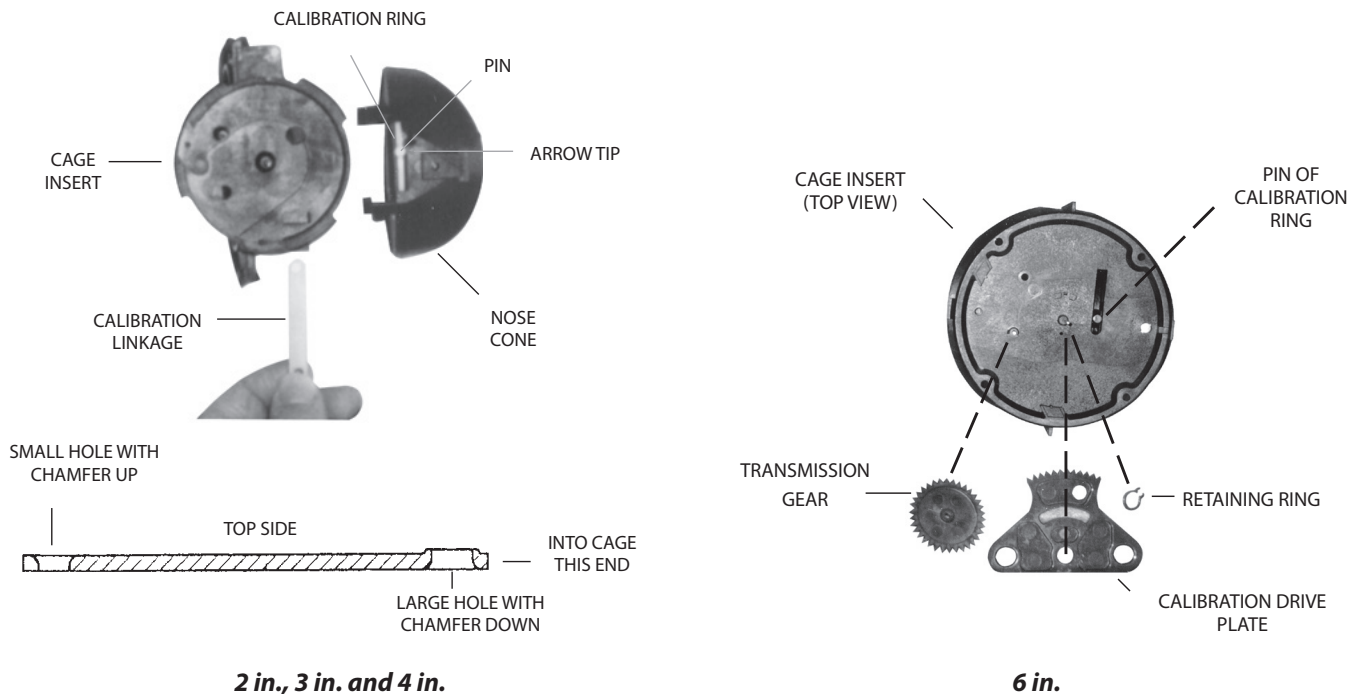

Figure 11: Calibration ring/linkage assemblies
1. Align the pin on the perimeter of the calibration ring with the arrow tip located on the nose cone assembly (see *Figure 11*).
2. For 2 in., 3 in. and 4 in. sizes, install the calibration linkage into the cage with the larger hole to engage the calibration ring tab, with the side of chamfered edge of the hole towards the nose cone assembly (see *Figure 11*).